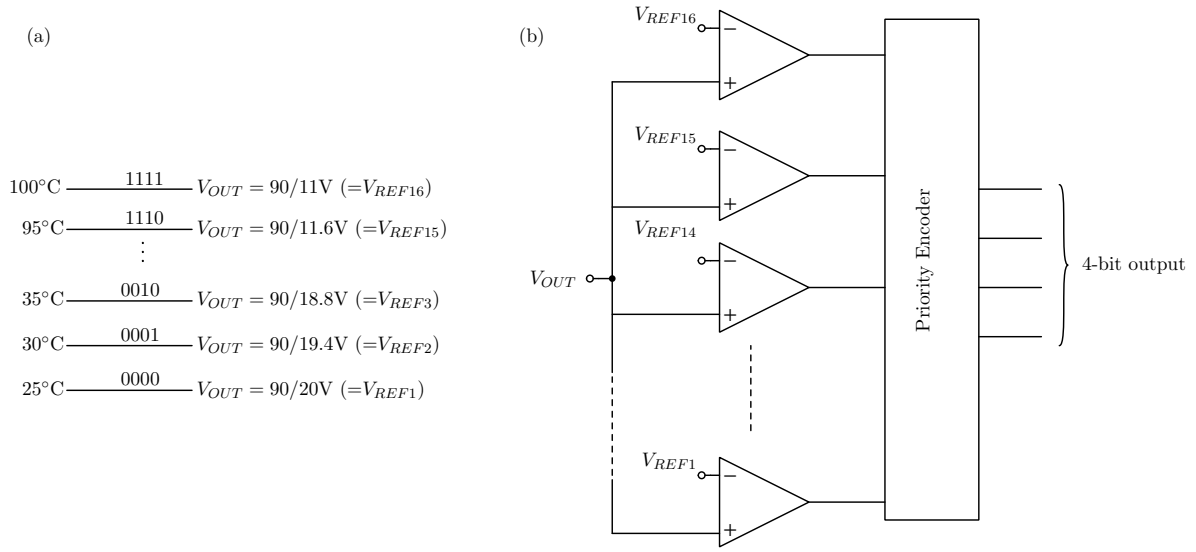

Fig.S5(a) 16 temperature levels and the corresponding  $V_{OUT}$  values. (b) A comparator enabled alarm system.
- Divide the temperature range into 16 levels and assign a 4-bit code to each level as shown in Fig.S5(a).
- Compute the  $V_{OUT}$  corresponding to each level as shown in Fig.S5(a).